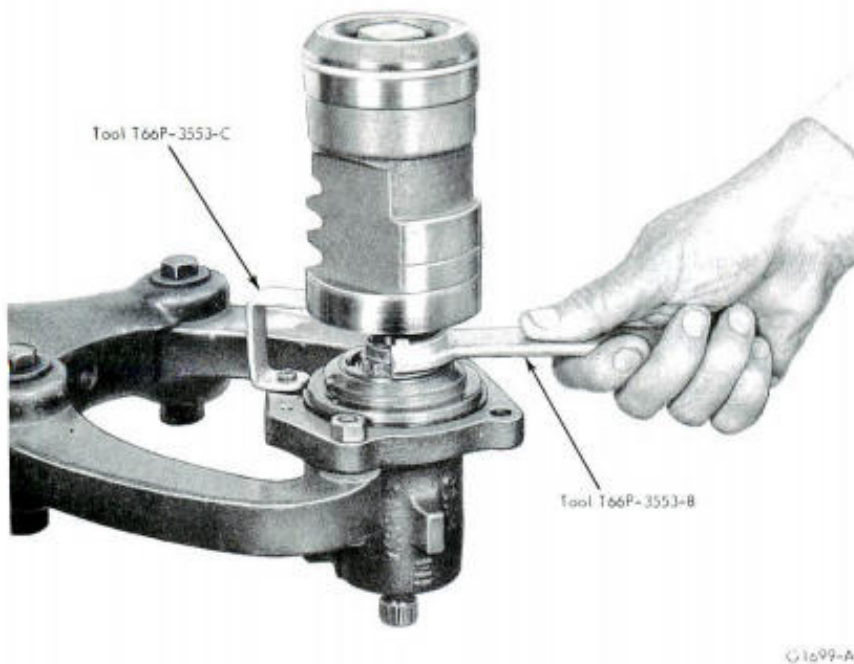

FIG. 12—Removing Worm Bearing Race Nut
under the piston (Fig. 12).
12. Install the valve body assembly in the holding fixture (do not clamp in a vise) and loosen the race nut screw (Allen head) from the valve housing and remove the worm bearing race nut as shown in Fig. 12.